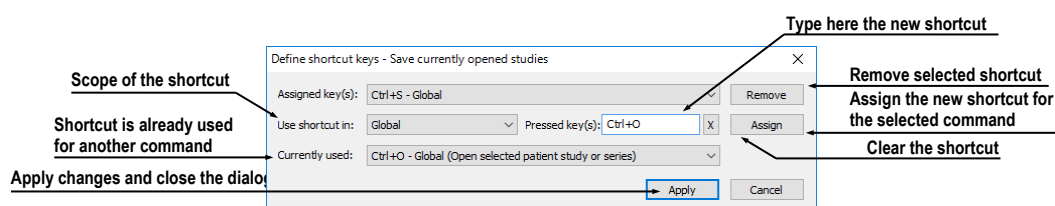

Figure 76 - Define shortcut keys dialog
2. Click **Add**. The **Define shortcut keys** dialog is then displayed (see Figure 76).